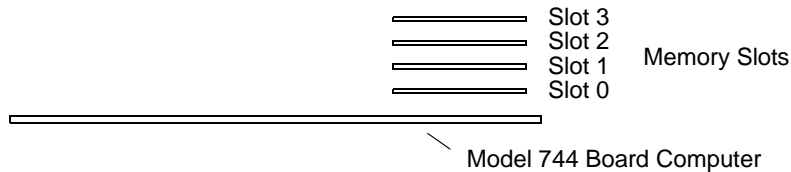

Figure 2-1
- 2** To determine the maximum current usage of the Model 744 memory cards, either use Figure 2-1 and Table 2-1 (for Model 744/132L) or Table 2-2 (for Model 744/165L). You must work with the worst case power draw to correctly determine power usage. Determine worst case power draw by examining active memory bank configurations, using the following steps: